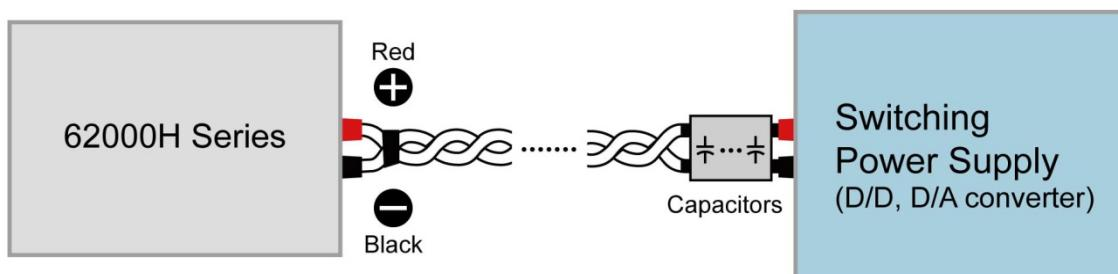

Figure 1-2
2. For switchable power load applications, if the output load cable is longer than 20cm, strand the load cable and parallel the capacitance at the load input to prevent any unexpected oscillation from occurring (see Figure 1-2).